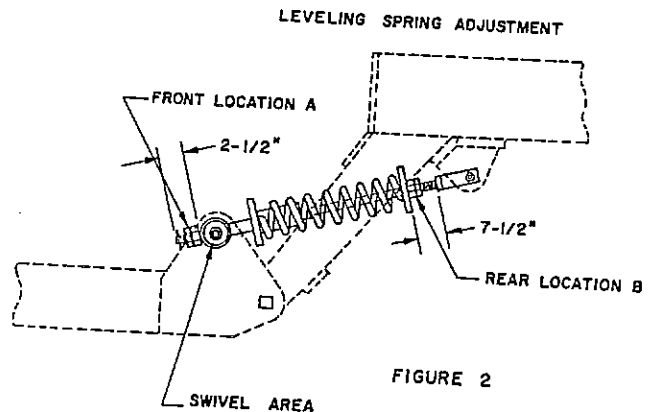

FIGURE 2
3. See figure 2. Two spring assemblies on the Model 1400 and 1600; one spring assembly on the Model 950. Level the frame in the raised position by adjusting the nuts at front location "A".
3. Observe the depth of front and rear gangs. See figure 2. If the front gangs need to go deeper, loosen nuts at rear location B (7-1/2" dimension decreased). If the front gangs are too deep, tighten nut at rear location B (7-1/2" dimension increased).
To level the frame in the transport (raised) position. Make sure the tractor and Disk Plow are on level ground, fully extend the lift cylinder(s). See figure 2. Using the 2-1/4" open end wrench provided with the Disk Plow unlock the front hex nuts at position "A" on the spring and shaft and reposition until the frame is the same distance from the ground at the front and rear. The tension can be taken off these nuts by lowering the disk plow to the ground. The front of the frame is lowered by tightening (turning clockwise). These nuts must be positioned so they are equal distance from the end of the threaded shaft on the 1400 and 1600. Be sure to retighten the jam nut.